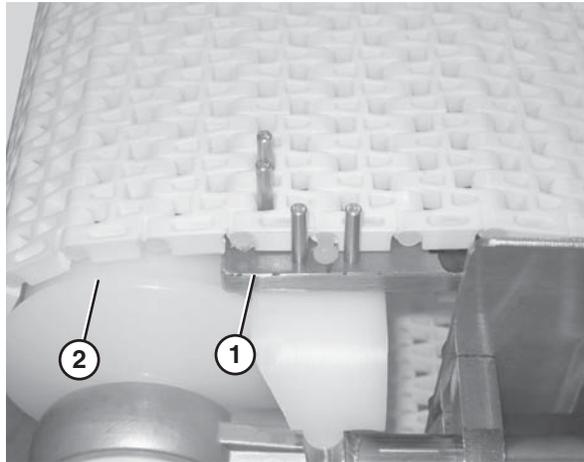

Figure 50
1. Secure the retaining head side of the belt. Use the belt removal tool (**Figure 50, item 1**) for 1" pitch belts. For all other belts, position the section of belt so that it is braced by the flanged puck (**Figure 50, item 2**).